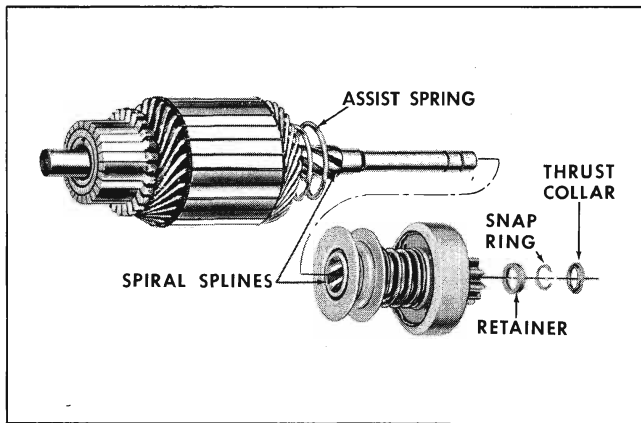

Fig. 11-38 Armature and Overrunning Clutch Assembly—Exploded View
a. Slide thrust collar (Fig. 11-38) off end of armature shaft.